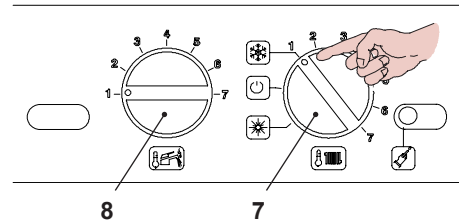

Figure 5.5
- 1 Turn the selector 7 as in Figure 5.5.
- 2 The output temperature of c.h. water is adjustable from a minimum of about 100 °F to a maximum of about 185 °F (Figure 5.5), by turning the knob 7.